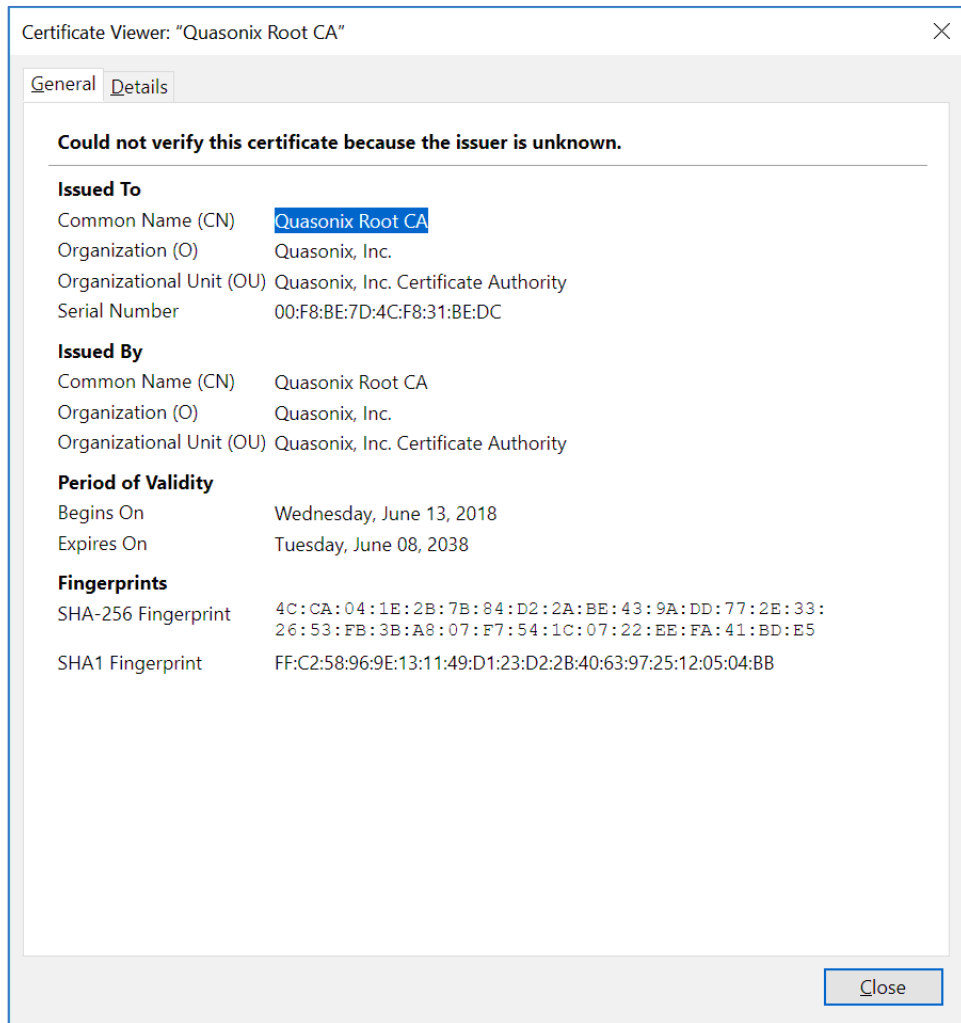

Figure 335: Firefox Certificate Viewer-Quasonix Root CA
- Click on the View button to examine the certificate. It should match the one shown in Figure 335.